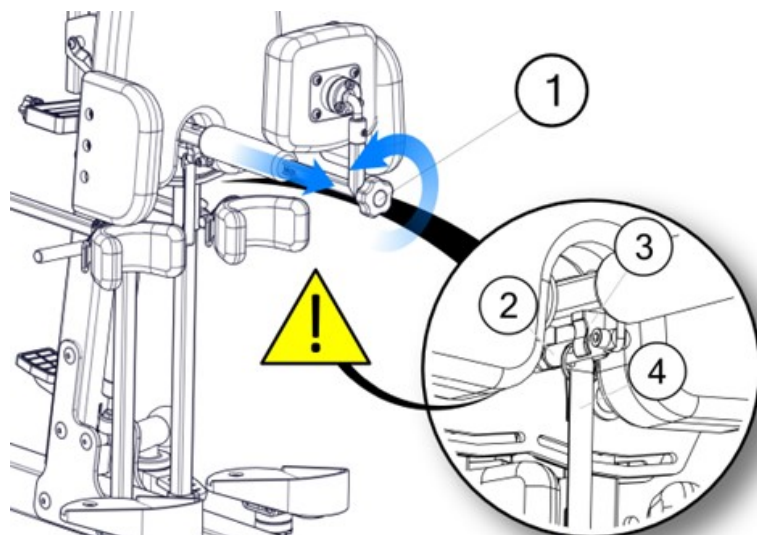

Fig. 6
Before placing the patient in the device, it is essential to disassemble the back support (Fig. 6). In order to do so, undo the knob (1) and remove the back support. The next step is to fold the blockade of the back support bracket (2) and take it out of the clamp (3) by pulling it away with the belt (4).